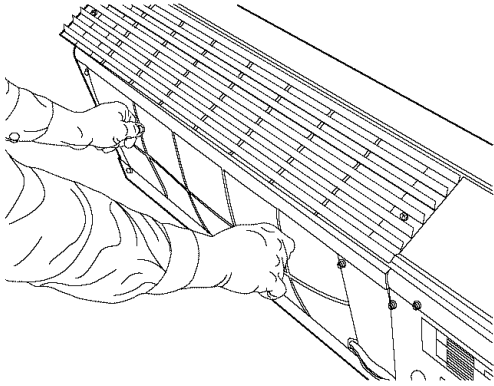

FIGURE 21 — REMOVING FILTER
1. If front panel has not been removed, remove panel as shown in Figure 2. To remove filter, grasp two filter tabs and pull the filter forward (Figure 21).